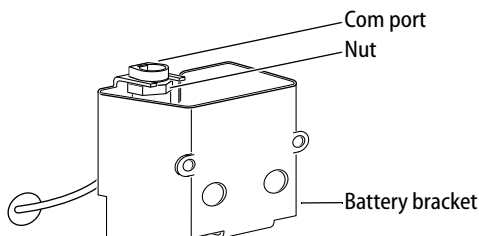

Figure 11 Installing the com port in the battery bracket
- 1 Routing the wire harness into the bottom of the battery bracket, slide the com port into its mounting slot inside the battery bracket as shown in Figure 11.